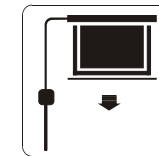

Figure 20
2. Turn the switch to position "=" to lower the screen; it will come down slowly. When it is all the way down, it will stop automatically (Figure 20).